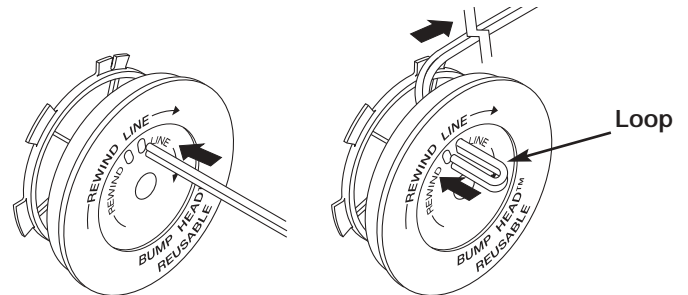

Fig. 37
- Take approximately 3 m (10 feet) of new trimming line. Insert one end of the line through one of the two holes in the inner reel (Fig. 37). Pull the line through the inner reel until only about 4 inches is left out.
- Insert the end of the line into the open hole in the inner reel and pull the line tight to make the loop as small as possible (Fig. 37).